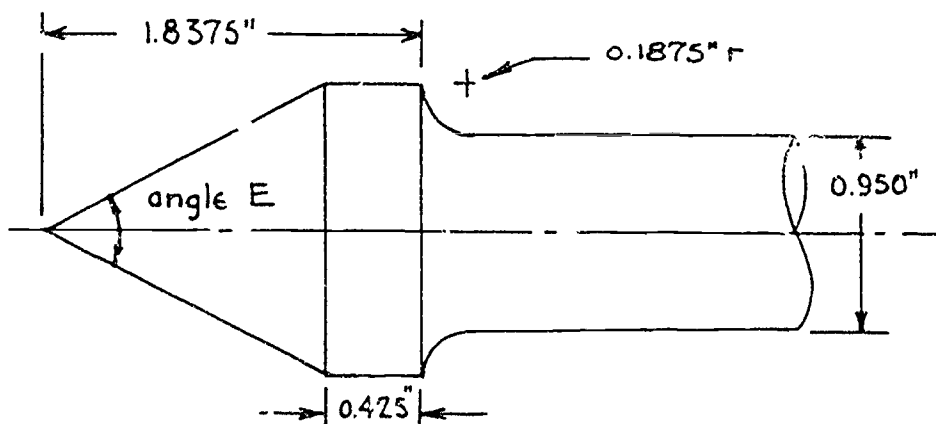

Figure 34: Find the accuracy of angle E .
10. You have machined a tool punch as shown in Figure 34 below. You measure angle E as 50.29° . To check your accuracy against the drawing, you must compute angle E by trigonometry and compare it to your measured angle $E = 50.29^\circ$. What is the difference, to the nearest one-hundredth of a degree, between your measured angle E and your computed angle E .